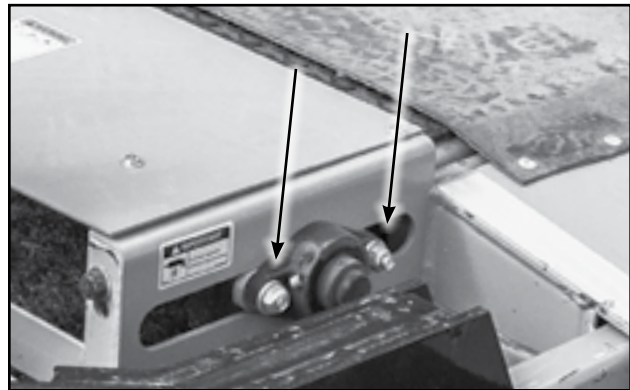

Fig 46 - Roller Bearing Anchor Bolts
2. Adjust the tension bolt at the tail roller to its loosest position. See Figure 46.